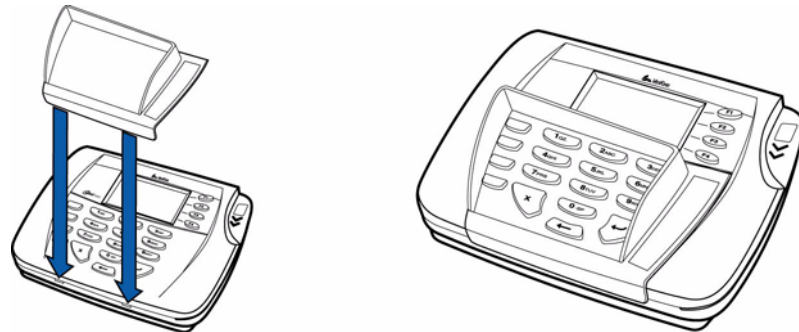

Figure 6 Installing the Privacy Shield of Omni 7000MPD
- 3 Align the front edge of the privacy shield with the front edge of the Omni 7xxxMPD series terminal in front of the key pad (Figure 6). Ensure that the privacy shield window clears all keys.